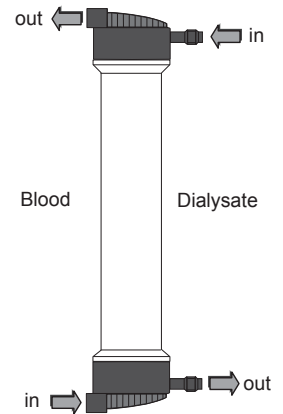

Figure 1: Position of Dialyzer during Priming and Treatment
- Refer to Figure 1: Position of Dialyzer during Priming and Treatment.